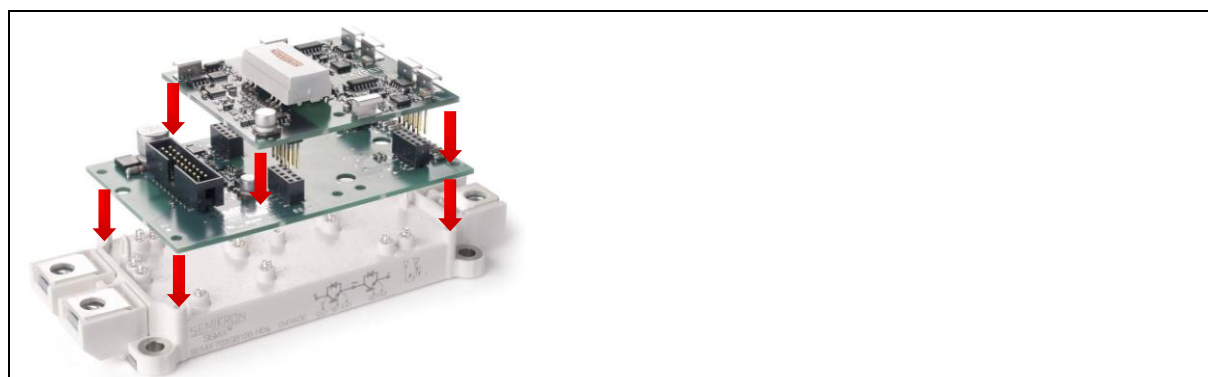

Fig. 1-2 SEMiX housing size 3 with SKYPER driver core and adapter board
- ◆ Solder-free mounting for the driver with no additional wiring or connectors (Fig. 1-2)
Thanks to the directly mounted driver (see Fig. 1-2) optimum IGBT control can be achieved and noise on gate wires or loose connectors can be ruled out.